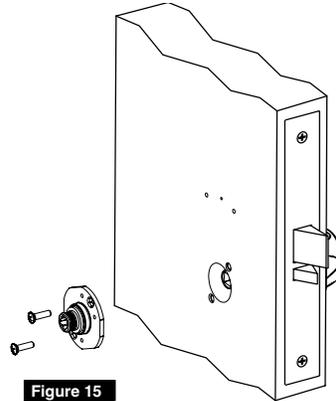

Figure 15
6. Align inside adapter plate assembly with outside assembly posts and secure with two (2) #8-32 screws. (Figure 15)